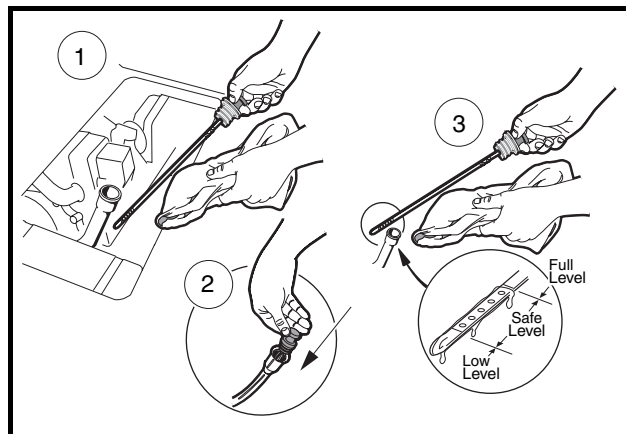

Figure 33 Engine Oil Level Check
1. Remove the oil level dipstick from the oil filler tube and wipe oil from stick (**Figure 33**). **See following CAUTION.**